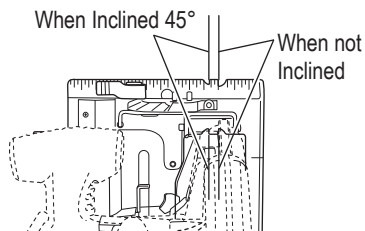

Fig. 29
- (1) Place the base on the material, then align the premarked line and the saw blade with the notch at the front of the base (Fig. 29).
- (2) When the base is not inclined, use the right side of the notch (Fig. 29, Fig. 30).
If the base is inclined (45 degrees), use the left side of the notch (Fig. 29, Fig. 31).
4. Tilt saw forward and align the notch (Fig. 29) with the pre-marked guide line.